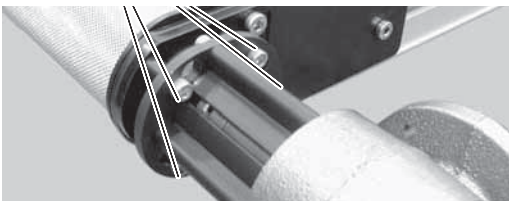

Figure 44
- b. Loosen the four (4) lock screws (Figure 44, item BK).